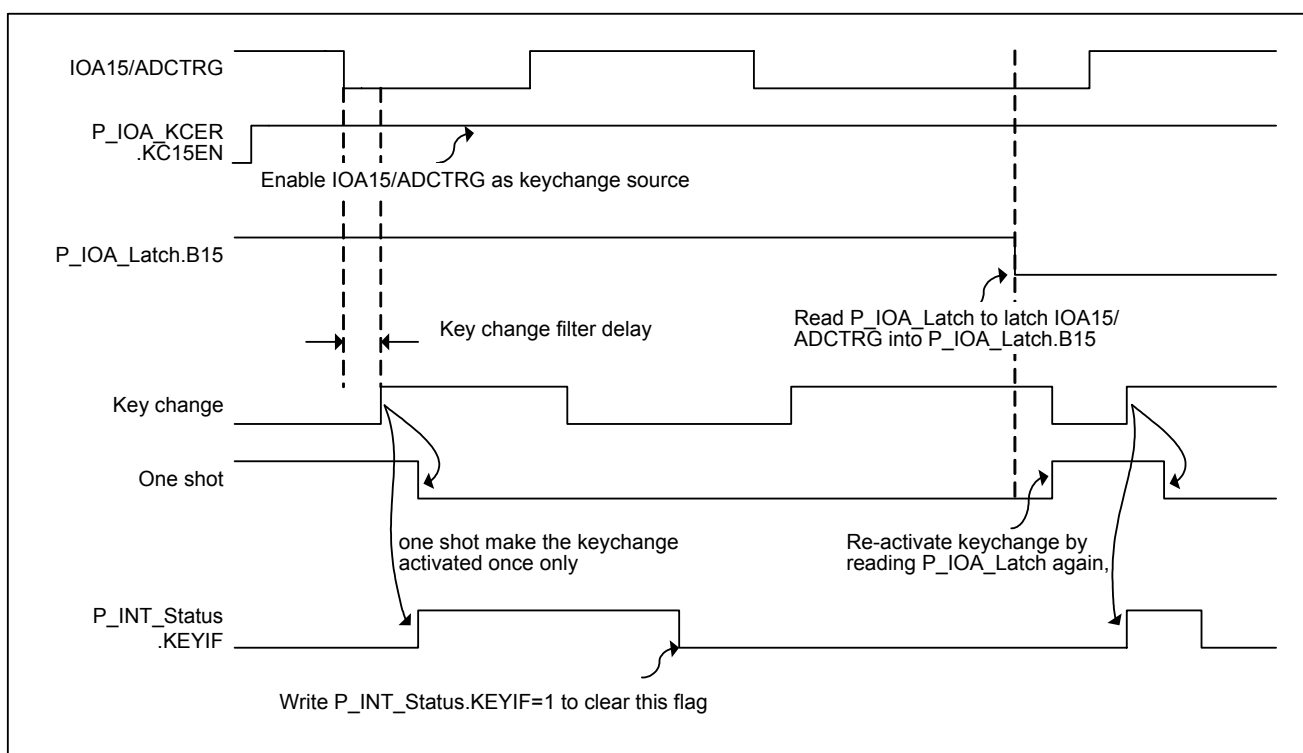

Figure 5-21 Keychange timing
There are 8 I/O ports, IOA[15:8], support key-change function. Each I/O port can be enable/disable separately. The key-change function is enabled by setting the appropriate direction, attribution and buffer configuration as listed on Table 5-9 and setting P_IOA_KCER to enable the IO port used as key-change source. Next, P_IOA_Latch(R) should be performed to latch the value of Port A. The key-change event occurs if the Port A is different from the value that have stored into P_IOA_Latch. Additionally, the key-change event occurs once until P_IOA_Latch(R) is performed again, which is called one shot. The operation of key-change IOA15 is shown as Figure 5-21.